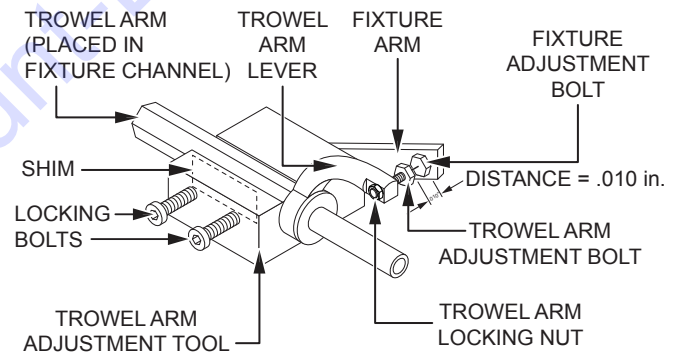

Figure 64. Trowel Arm Adjustment
1. Unscrew the locking bolts on the adjustment tool and place a trowel arm (with lever attached) into the fixture channel as shown in Figure 64.
3. A thin shim (Figure 64) may be required to cover the blade holes on the trowel arm. Be sure to align the trowel arm adjustment bolt with the fixture adjustment bolt.
4. Tighten the locking bolts (Figure 64) to secure the trowel arm in place.
5. Adjust the bolt distance shown in Figure 64 to match one of the arms. The other arms will be adjusted to match this distance.